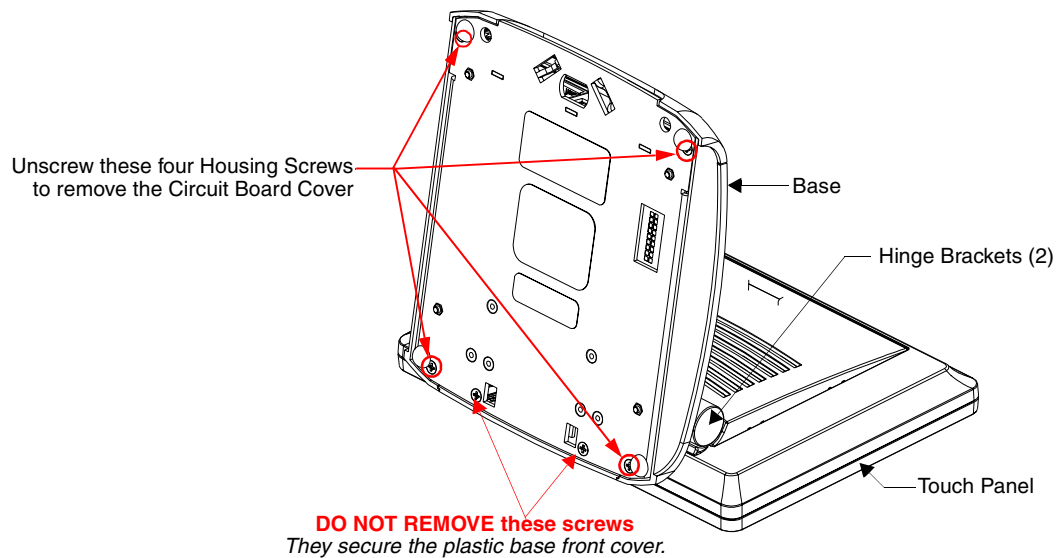

FIG. 16 Location of the attachment screws underneath an NXT-CV7 panel base
1. Carefully detach all connectors from the rear of the touch panel and then gently place the touch panel LCD facedown onto a soft cloth to expose the under-side of the base (FIG. 16). This step helps prevent scratching of the LCD.
6. Insert and secure the four Housing Screws (using a grounded Phillips-head screwdriver) in their respective locations, as shown in FIG. 16 on page 20.